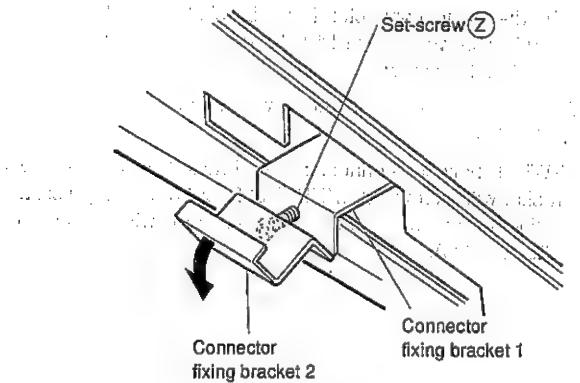

Fig. 4
- 8) Loosen the set-screw ② that serves to join the slip connector fixing bracket 1 and the connector fixing bracket 2 and connect the connector from the slip printer to the interface PWB unit. (See Figs. 4, 5 and 6.) (When connecting the connector to the interface PWB unit, make sure that the connector is locked with a click.)